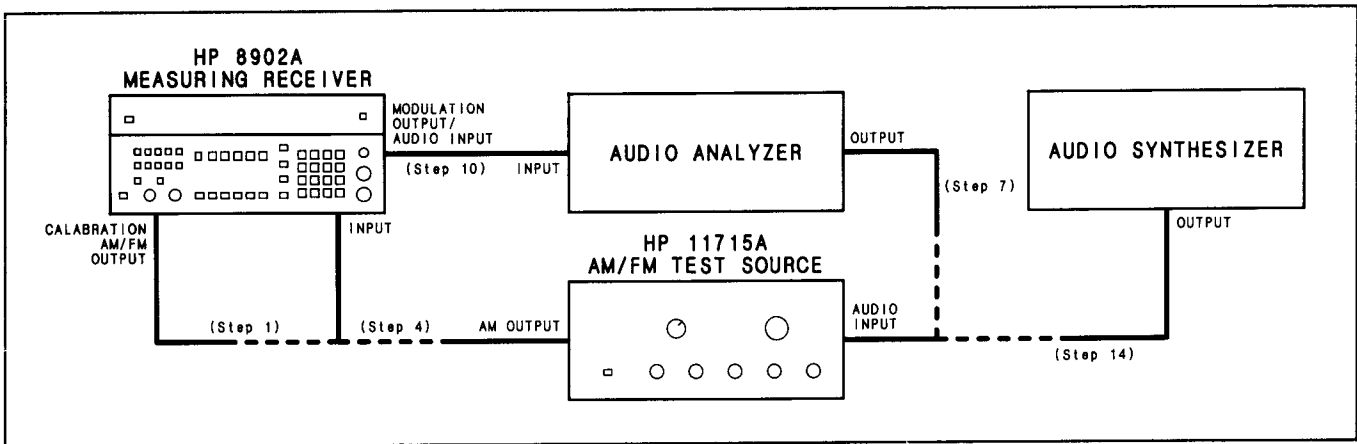

Figure 4-1. AM Performance Test Setup
10. Connect the audio analyzer's input to the Measuring Receiver's MODULATION OUTPUT/AUDIO INPUT. (See Figure 4-1.) Set the audio analyzer to measure the distortion on the 20 kHz signal at the MODULATION OUTPUT/AUDIO INPUT with 80 kHz of low-pass filtering (on the audio analyzer). The distortion should be 0.3% or less (-50 dB or less).
14. Set the audio synthesizer to 1 kHz at +1 dBm. Connect its output to the audio input of the AM/FM test source. (See Figure 4-1.) Fine adjust the audio synthesizer level for a Measuring Receiver display of 80% AM.